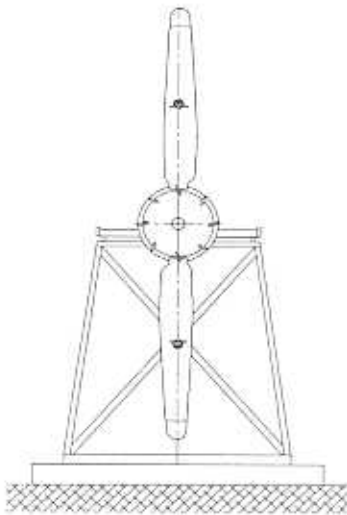

Fig. 19 Facility for static balancing the propeller.
- remove the propeller and carry out new static balancing. (Permitted disbalance in the horizontal position of blades is max. 0.354 lb in, in vertical position of blades max. 0,177 lb in. The balancing is to be carried out without the oil), **fig. 19**.
When replacing the propeller blades, replace both blades, i.e. the complete set. The replacement can be carried out by service personnel only or in the plant of the producer. The propeller must be again statically balanced, **fig. 19**.